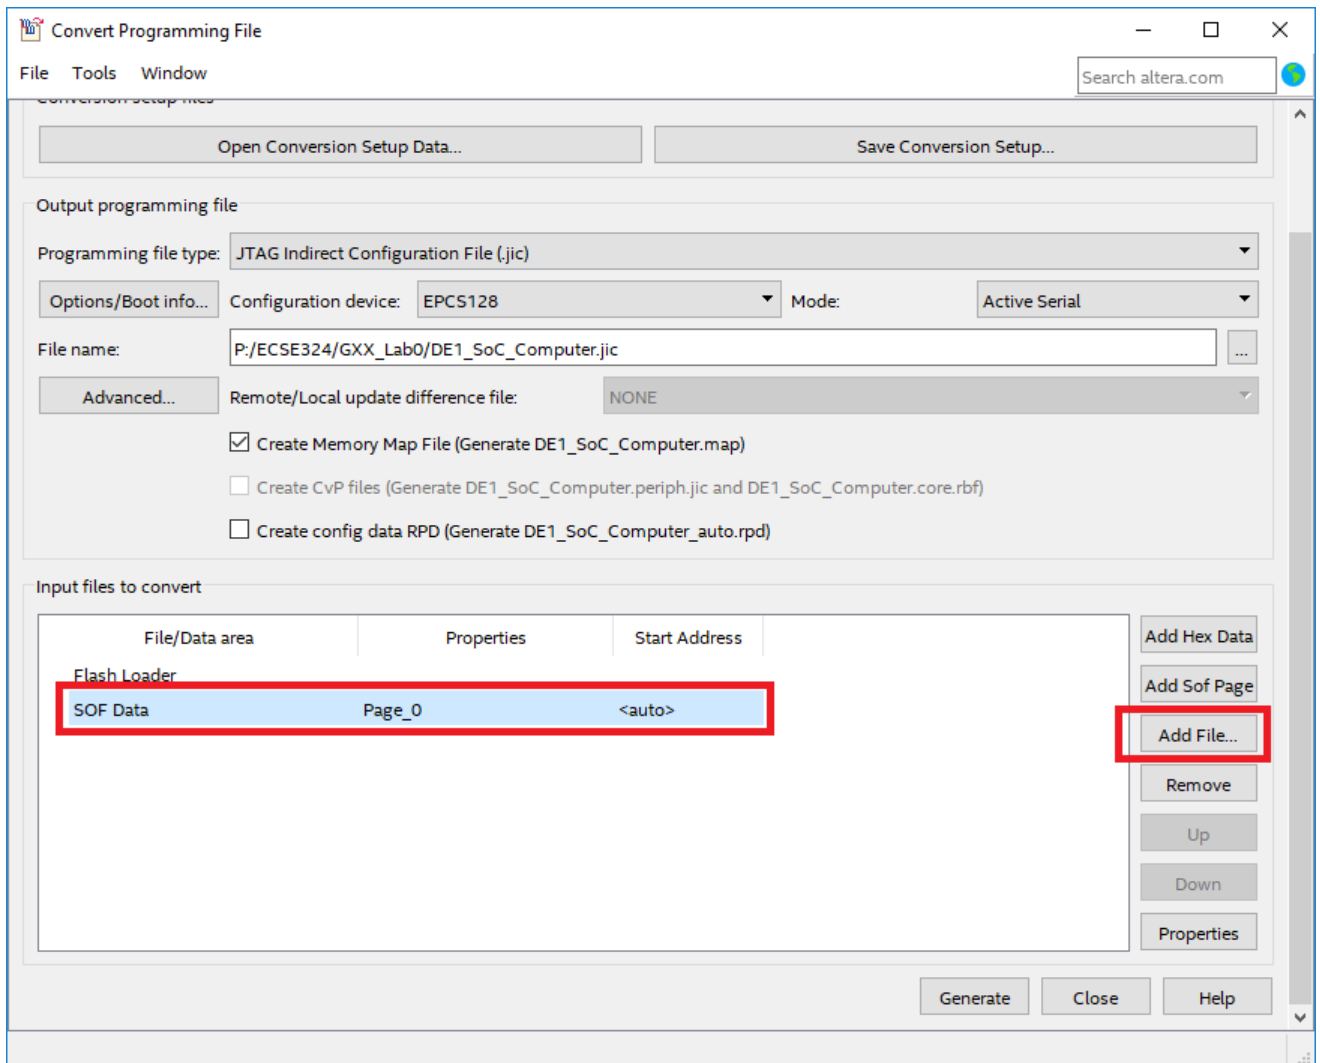

Figure 3: Convert SOF to JIC - Step 3
3. Next, under 'Input files to convert' click on 'SOF data', and then click 'Add File' as shown in Figure 3.